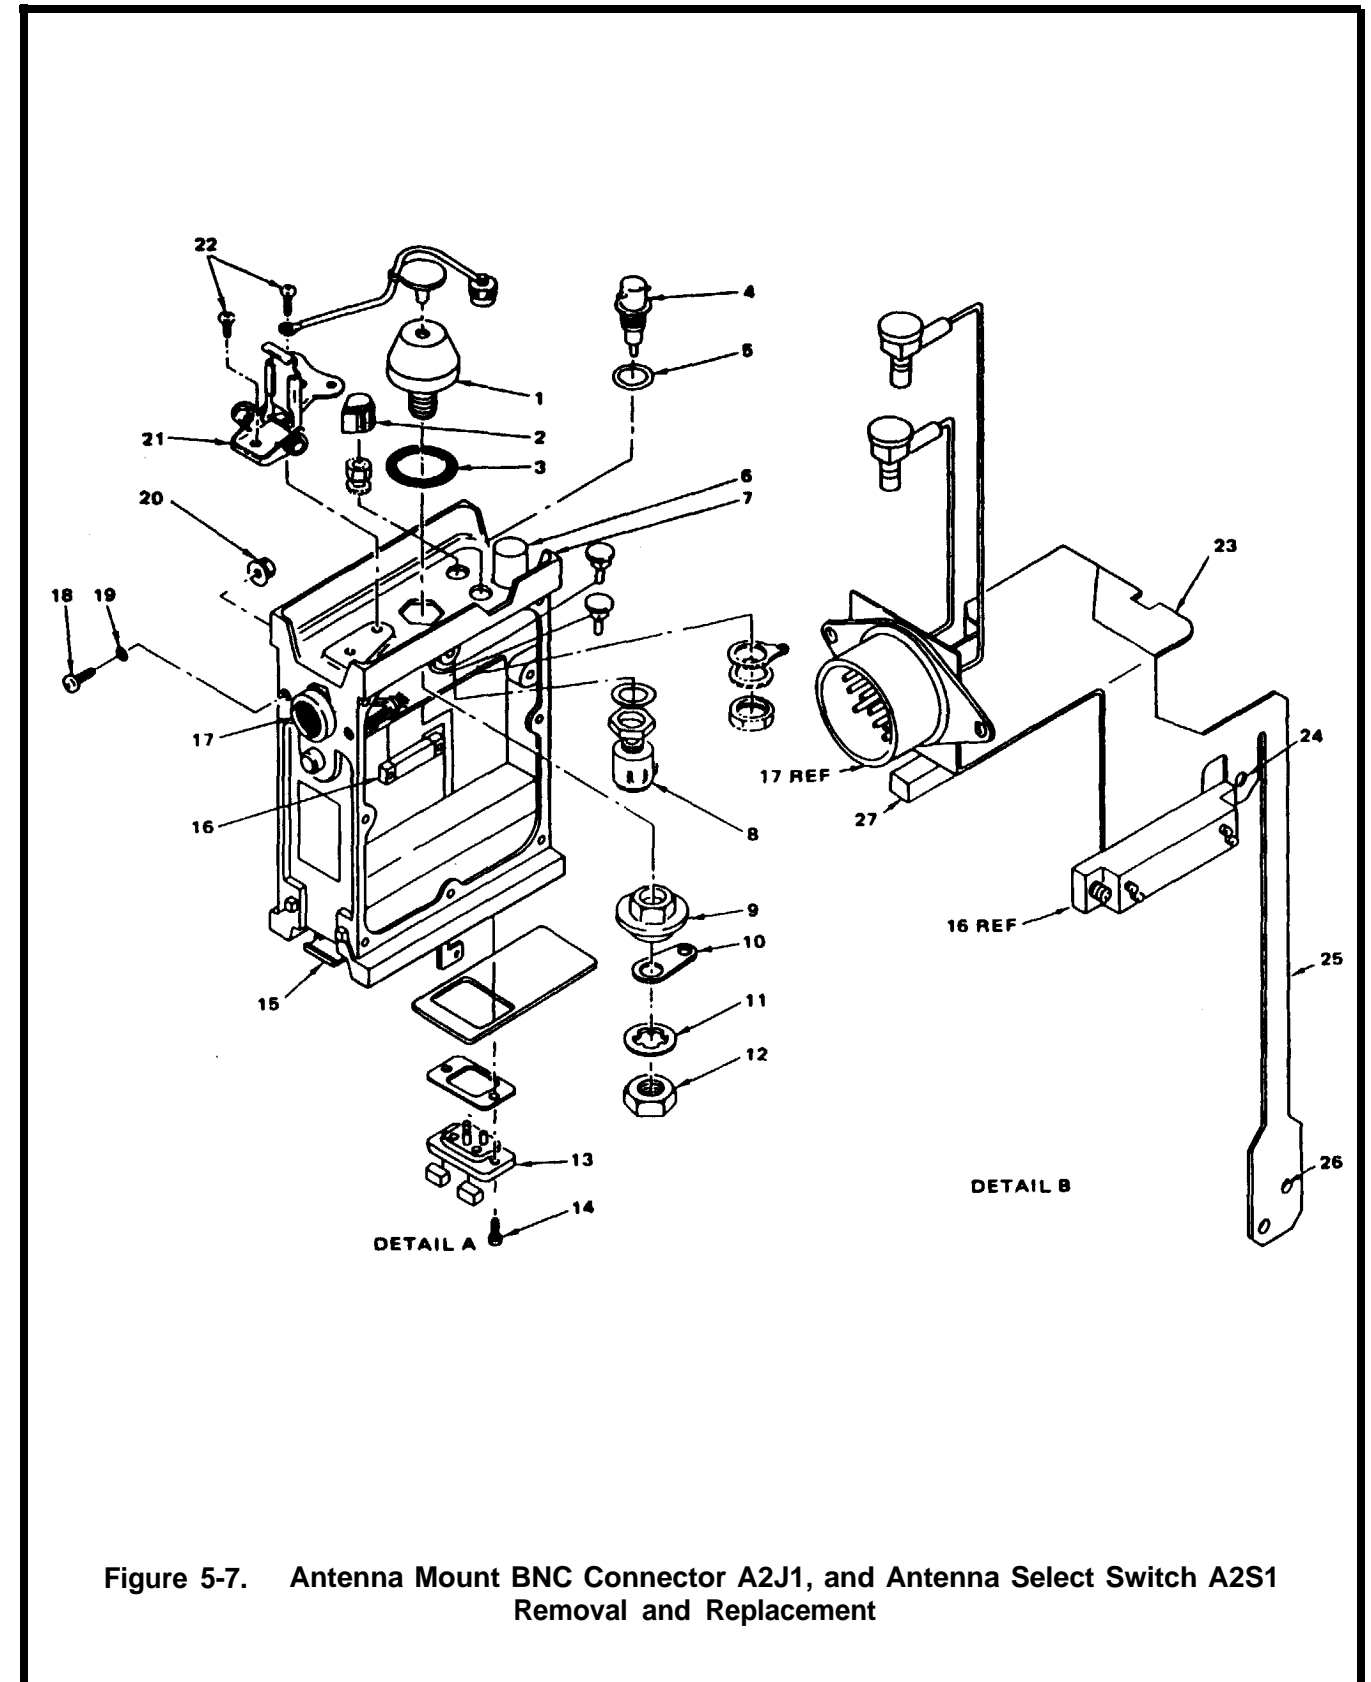

Figure 5-7. Antenna Mount BNC Connector A2J1, and Antenna Select Switch A2S1 Removal and Replacement
**ANTENNA MOUNT REMOVAL AND REPLACEMENT, fig 5-7**
1. Inspect preform packing (3). Replace if worn or cracked. Lubricate preform packing.
2. Align upper antenna mount (1) and preform packing (3) with hexagon cutout on top of amplifier/coupler housing.
3. Push upper antenna mount (1) through hex cutout.
4. Align lower antenna mount (9) with upper antenna mount (1).
5. Push lower antenna mount (9) into hex cutout.
6. Attach terminals lug (10).
7. Attach lockwasher (11).
8. Attach nut (12) and tighten.
**BNC CONNECTOR A2J1 REMOVAL AND REPLACEMENT, fig 5-7**
1. Inspect preform packing O-ring (5). Replace if worn or cracked. Lubricate preform packing.
2. Align BNC connector (4) and preform packing (5) with hole adjacent to antenna mount.
3. Push BNC connector (4) and preform packing (5) into position with connector soldering terminal extending downward.
5. Solder teflon wire from antenna select switch (8) to BNC connector terminal (4).
**ANTENNA SELECT SWITCH A2S1 REMOVAL AND REPLACEMENT, fig 5-7**